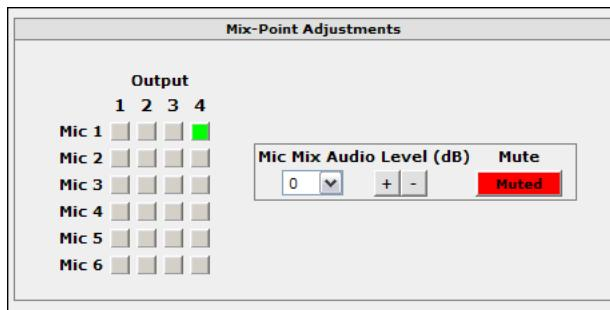

Figure 72. Output Selection Drop Box
1. Click the desired input and output combination. The selected mix-point turns green. Mic 1 to Output 4 is shown selected (see figure 72).